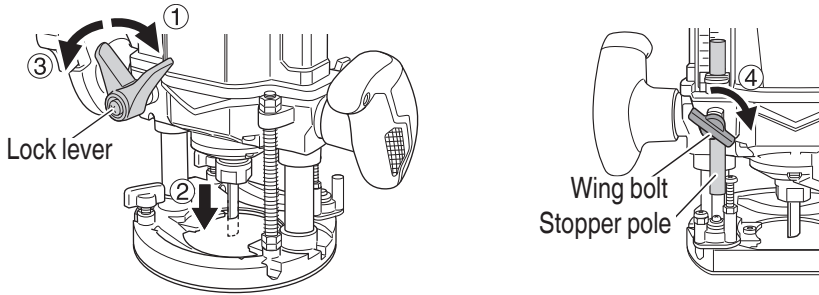

Fig. 15
- (3) Loosen the lock lever and press the tool body until the bit just touches the flat surface. Tighten the lock lever at this point. Tighten the wing bolt and also secure the stopper pole. (Fig. 15)